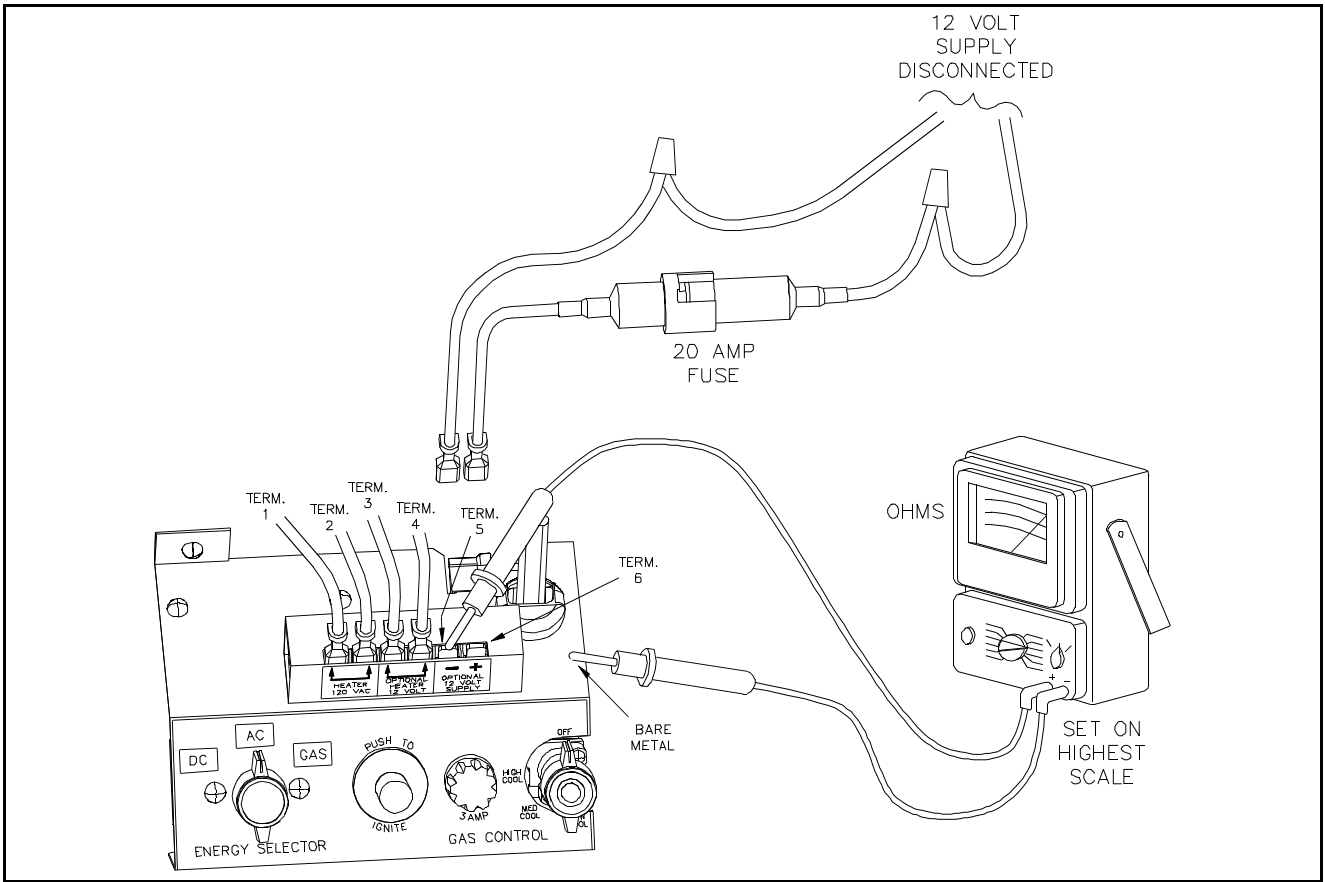

Figure 16 - Ground Fault Test - DC
4. Ground Fault Test: With the Selector switch still in the DC position, disconnect the DC Supply at Terminals 5 and 6. Use an Ohmmeter (set on highest scale) to measure resistance between Terminal 6 and chassis ground (metal panel will work), as illustrated in Figure 16. Read the Ohmmeter and refer to TABLE 3 on page 12-16.